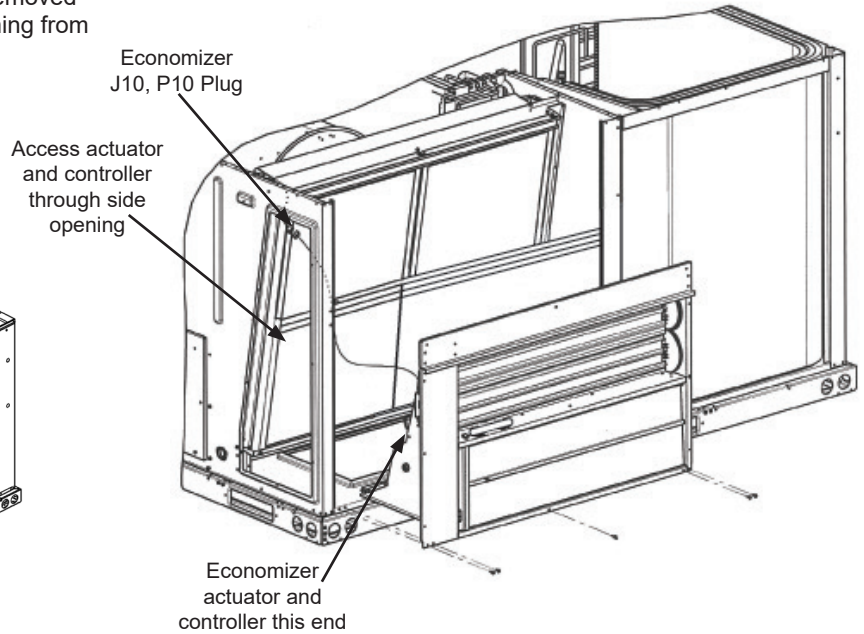

Figure 3 - Economizer Installation
4. Install damper assembly into unit under the cross support. Fit opening in bottom of damper assembly over the return air opening. See Figure 3.
4. At economizer/ filter compartment, attach economizer plug P10 to prewired jack (J10). See Fig. 3.